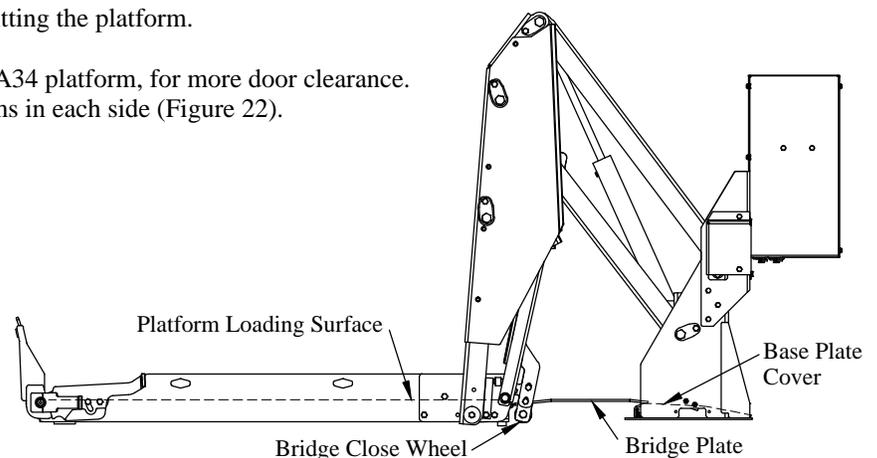

Figure 21: Platform and bridge plate.
3. **Check** if the platform loading surface is even with base plate cover (Figure 21).
4. **Position** the platform so that it is even with the top of the base plate cover (Figure 21).
4. **Raise** the platform as high as it will go with just the pendant toggle (Figure 21).
6. **Adjust** each bridge close wheel so that it is tight against the bottom of the bridge plate (Figure 21).